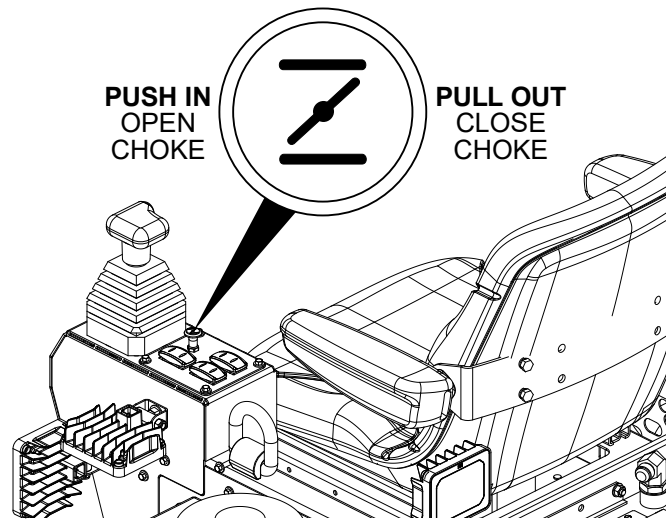

Figure 20. Choke Knob
2. If starting a cold engine, or starting the engine in cold weather, pull the **choke knob** (Figure 20) **outward** to the **CLOSED** position.
5. Let the engine idle for 2–3 minutes. Once the engine has warmed, push the **choke knob** (Figure 20) **inward** to the **OPEN** position.